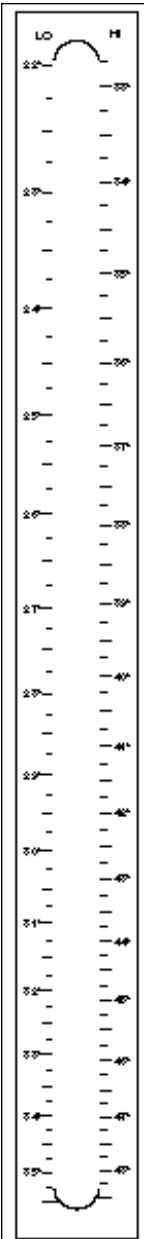

Fig. 15: Example of Standard Tripod Leg Latitude Scales.
4. Each table tripod is equipped with two adjustable tripod legs: The *standard tripod leg* is used at observing latitudes as shown in the box in step 5 and has a dual latitude label attached (Fig. 15). The *high-latitude tripod leg* is shorter and is used at higher observing latitudes. Based on the observing latitude determined in step 3, set aside the tripod leg that is not to be used.